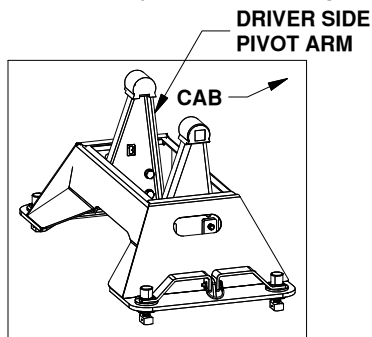
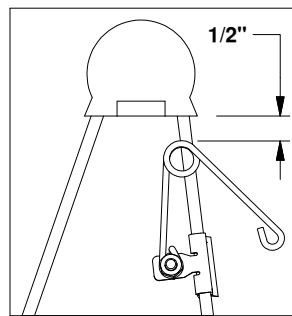

FIGURE B3: View of base.
FIGURE B4: Driver
2. Locate the flange which will be closest to the truck cab on the driver side pivot arm, see figure B3. The clip should be placed so that when the springs coil is in the line with the edge of the arm there will be 1/2" of clearance between the bottom of the rubber bumper and the top of the spring, see figure B4. Drive the clip securely onto the flange with a hammer.